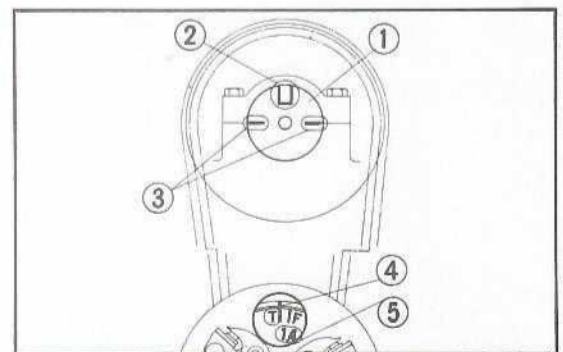

Fig. 3-40 ① Camshaft ④ "T" mark
- Assemble the cam chain on the sprocket before mounting the cam sprocket. Place the camshaft on top of the camshaft holder and align the timing index line on the right side of the camshaft, so that it is parallel to the top surface of the camshaft holder. (The key groove must be toward the top). In this condition the base circle of the No. 4 cam is toward the top and the No. 1 cam is in the overlap position. (Fig. 3-40, 41)